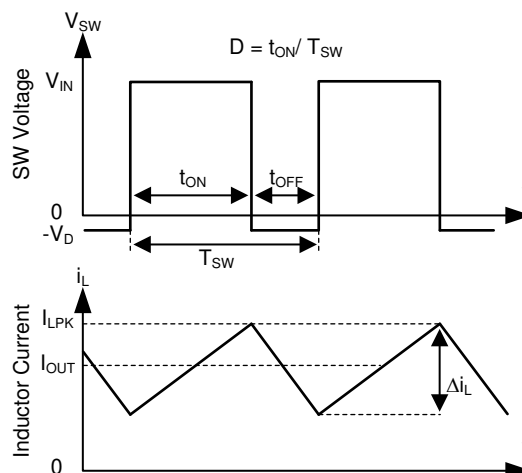

Figure 10-2. SW Node and Inductor Current Waveforms in Continuous Conduction Mode (CCM)
The following operating description of the TPS2586x-Q1 refers to the *Functional Block Diagram*. The TPS2586x-Q1 integrates a monolithic, synchronous, rectified, step-down, switch-mode converter with internal power MOSFETs and USB current-limit switches with charging ports auto-detection. The TPS2586x-Q1 offers a compact and high efficiency solution with excellent load and line regulation over a wide input supply range. The TPS2586x-Q1 supplies a regulated output voltage by turning on the high-side (HS) and low-side (LS) NMOS switches with controlled duty cycle. During high-side switch ON time, the SW pin voltage swings up to approximately V_{IN} . The inductor current i_L increases with linear slope $(V_{IN} - V_{OUT}) / L$. When the HS switch is turned off by the control logic, the LS switch is turned on after an anti-shoot-through dead time. Inductor current discharges through the LS switch with a slope of $-V_{OUT} / L$. The control parameter of a buck converter is defined as Duty Cycle $D = t_{ON} / T_{SW}$, where t_{ON} is the high-side switch ON time and T_{SW} is the switching period, shown in Figure 10-2. The regulator control loop maintains a constant output voltage by adjusting the duty cycle D. In an ideal buck converter, where losses are ignored, D is proportional to the output voltage and inversely proportional to the input voltage: $D = V_{OUT} / V_{IN}$.